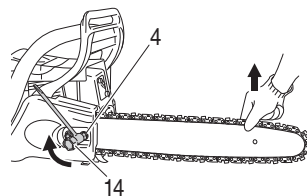

Fig. 9
8. Raise the bar end and securely tighten the guide bar clamp nuts (4) with the combi box spanner (14). (Fig. 9)